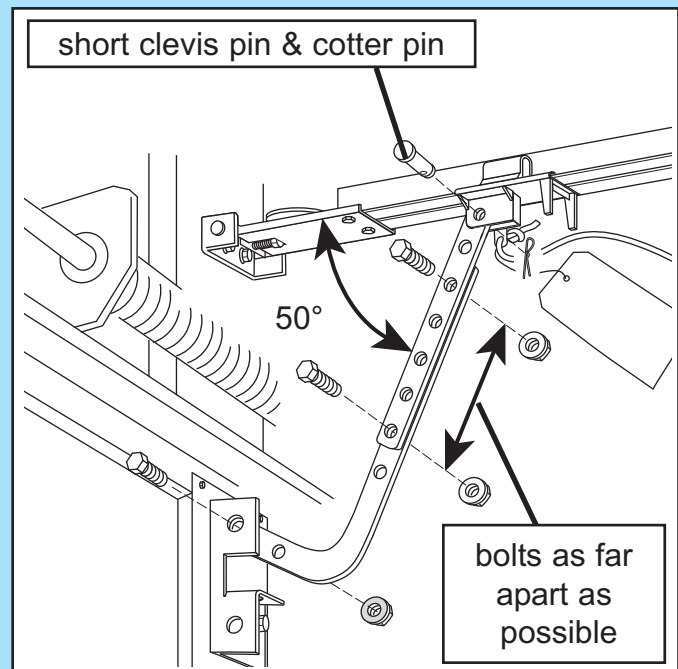

FIG. 2-9 Attaching door arms.
- Fasten curved door arm to door bracket using bolt and locking nut. (**Fig. 2-9**).
- Fasten straight arm to carriage using clevis pin and cotter pin. (**Fig. 2-9**).
- With the arms arranged in this position, fasten arms together using bolts and nuts spaced as far apart as possible (**Fig. 2-9**).